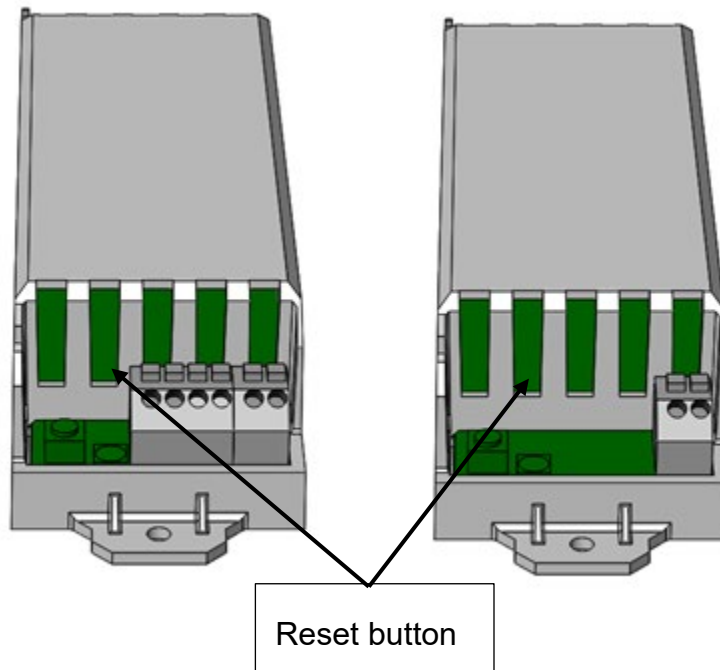
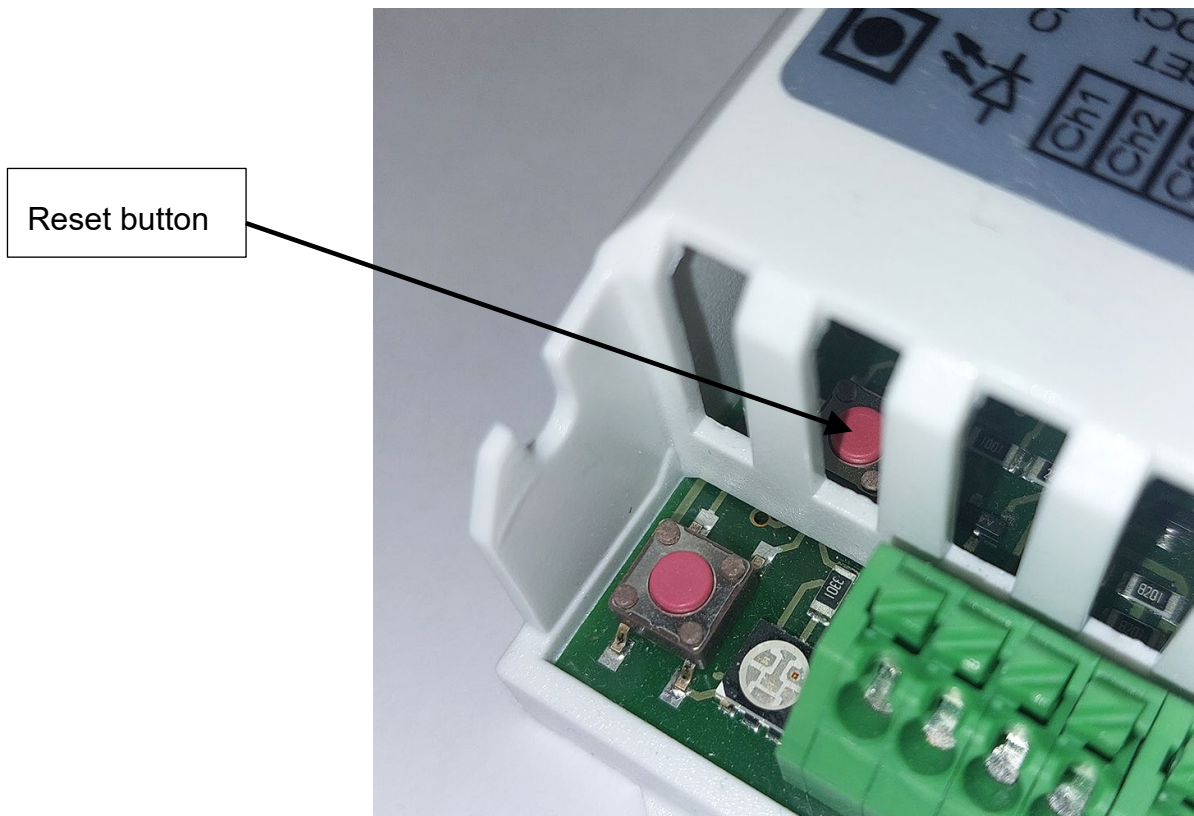

Figure 12. Location of the reset button. Left figure: TSF02075 & TSF0285. Right figure: TSF02076 & TSF0286.
Figure 13. Close-up of the reset button inside the casing
8. The memory of the receiver can be reset by pressing the reset button on the circuit board, inside the casing (see Figure 12 and Figure 13), for longer than 0.5 seconds.
The memory of the receiver can be reset by pressing the reset button on the circuit board, inside the casing (see Figure 12 and Figure 13), for longer than 0.5 seconds.